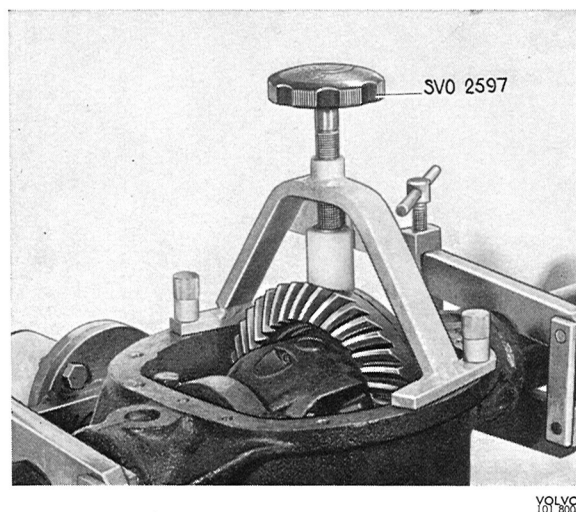
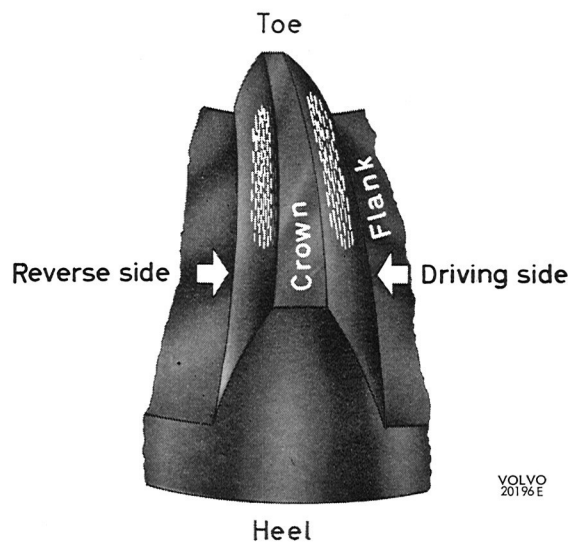

Fig. 4-176. Brake tool for differential
Fig. 4-177. Correct tooth contact
2. Install brake tool 2597 as shown in Fig. 4-176. Mark with color several teeth at three points on the ring gear. This can act as a check for possible ring gear warp. Rotate the pinion $10\text{--}12$ turns in both directions and check the contact marking pattern. At the correct contact, the contact marking pattern should be horizontal in the middle of the tooth but somewhat nearer to the toe than the heel. The pattern on the reverse side and driving side should coincide with each other, see Fig. 4-177.